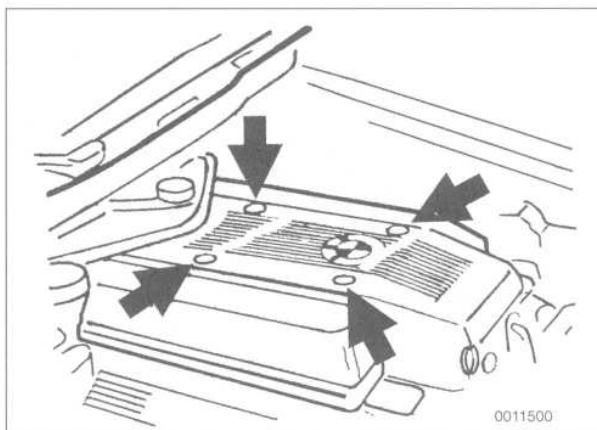

Fig. 22. On M60 engine, remove engine cover by prying out caps (arrows) and removing nuts below caps.
- Pry out cover caps and remove nuts from beneath caps. See Fig. 22.
1. Remove the top engine cover. See Fig. 22.